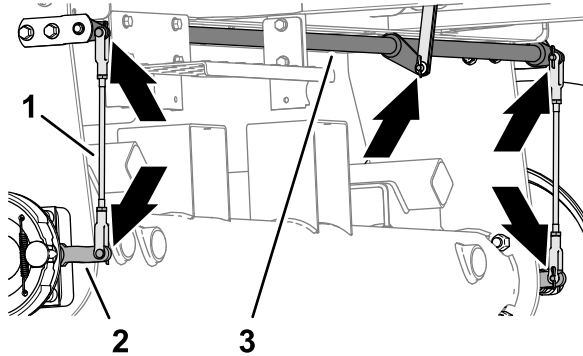

Figure 68
- Inspect the left and right brake-rod assemblies (Figure 68) for damage and wear.
- Inspect the brake pivot shaft (Figure 68) for damage and wear.